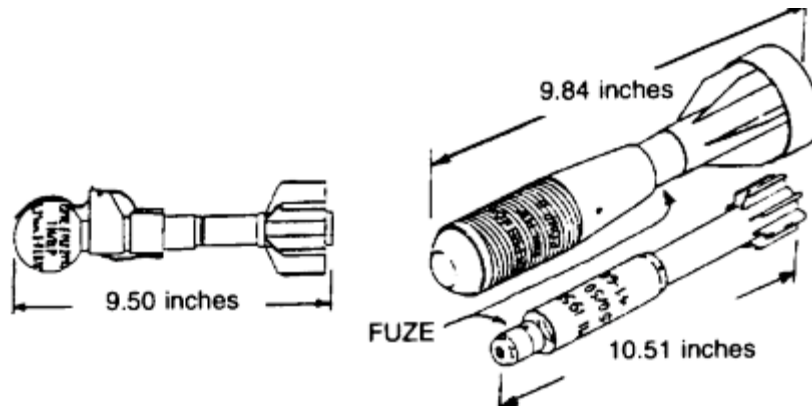

Figure 8a
- (e) Rifle Grenades (Figure 8a-b)